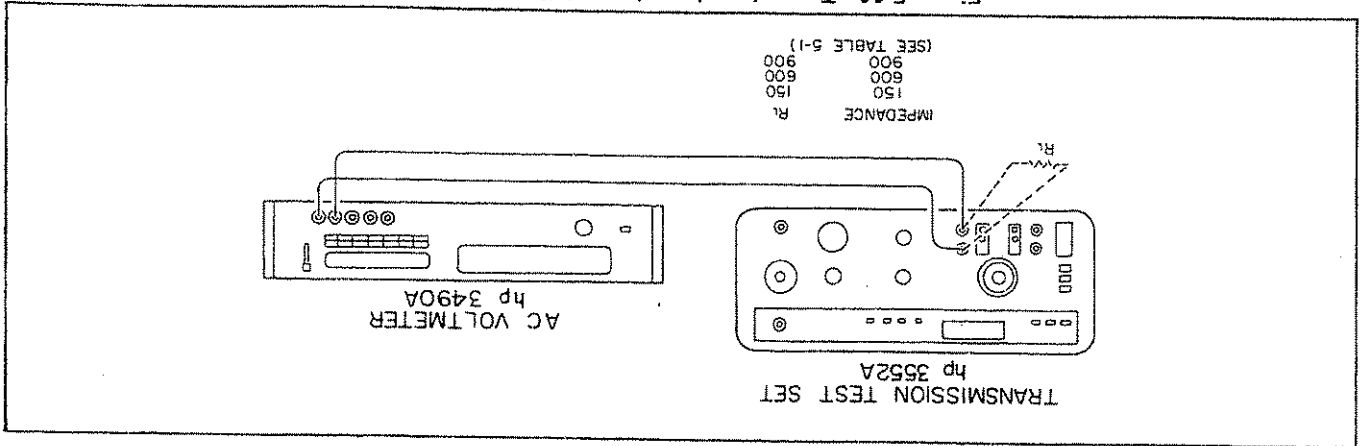

Figure 5-11. Transmitter Impedance Adjustment Setup.
- b. Connect the ac voltmeter to the Test Set as shown in Figure 5-11.